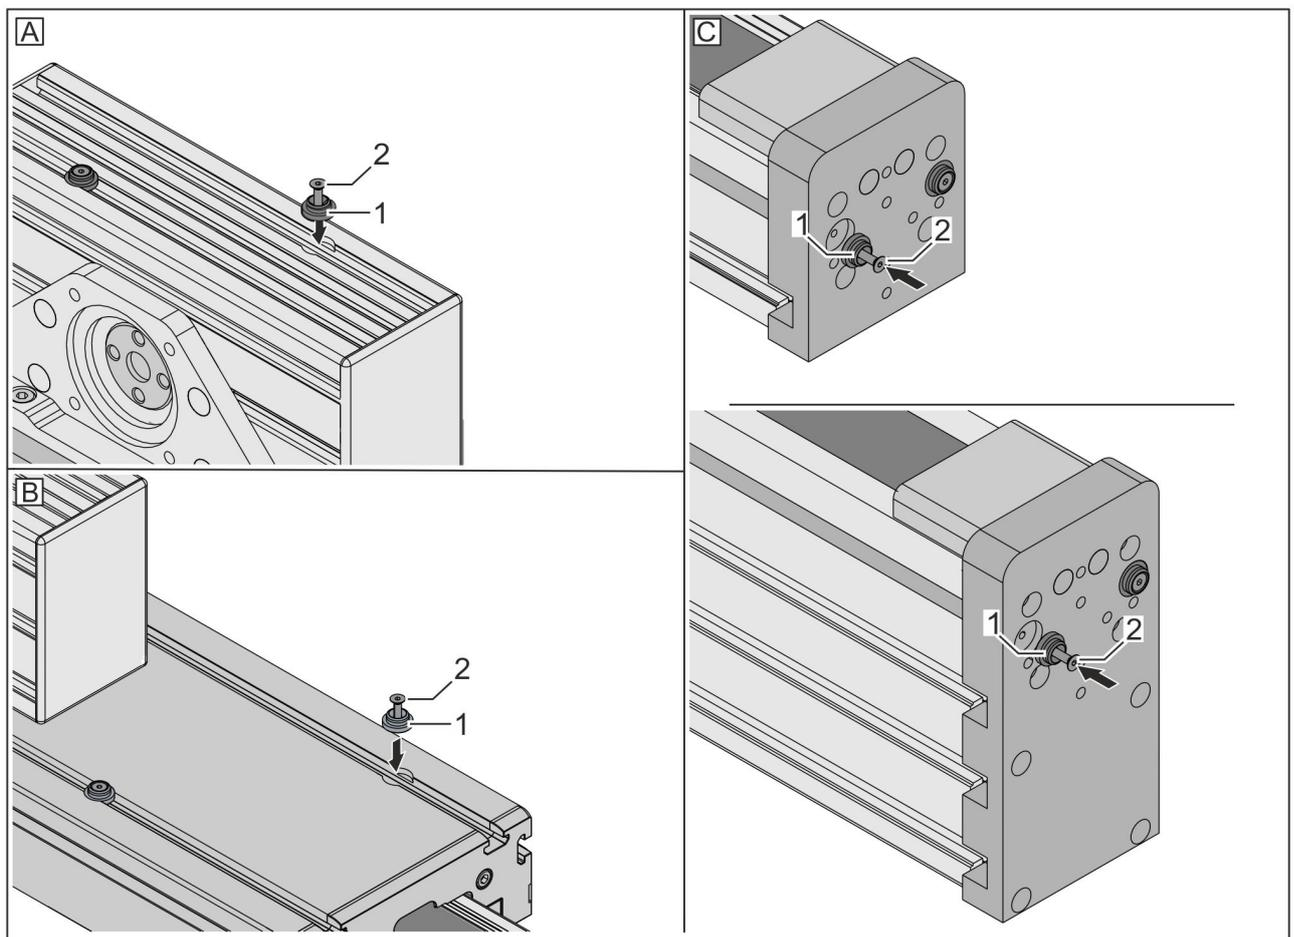

Fig. 41: Assembling the centring sets
- on the pulley housing of the standard guide carriage (Fig. 41/A)
- on the extended guide carriage (Fig. 41/B)
- at the end plates of the timing belt tensioning set (Fig. 41/C)
Place the centring sets (Fig. 41/1) in the holes provided for this purpose.
**2.** Tighten the screw (Fig. 41/2):